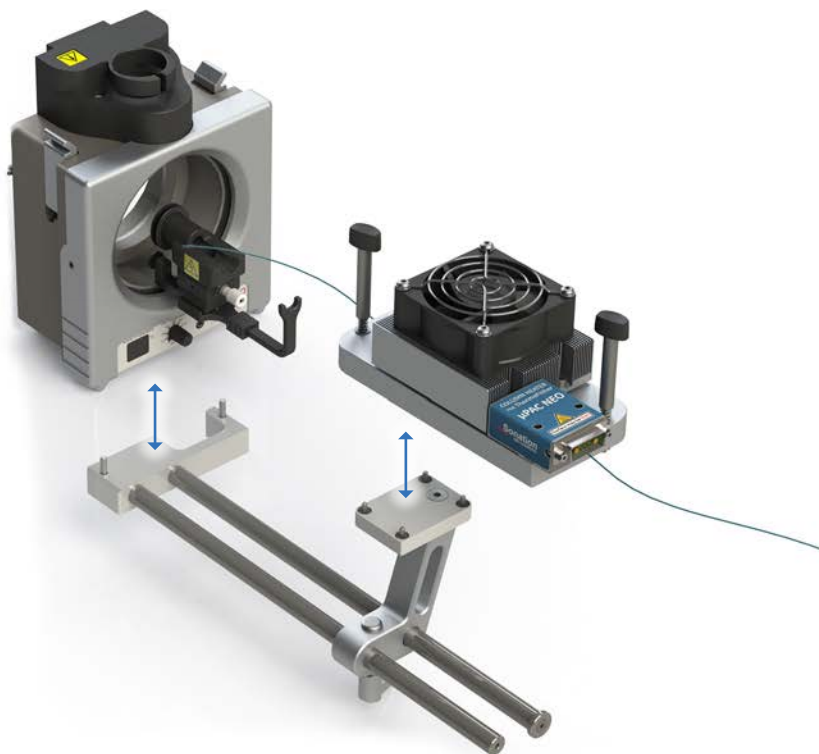

Fig. 10: Mounting the oven
- Attach the mounting kit to the source as shown in Fig. 10 and tighten the provided screws. To prevent the screws from being lost during transportation, they are secured with a short piece of silicone tubing. Please remove this before installation.